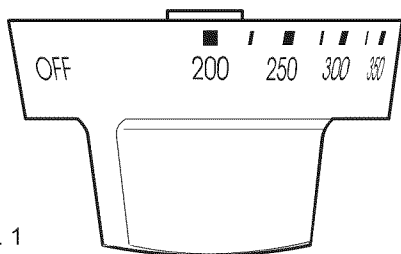

Fig. 1
Note: The graphics shown for the oven control knob may not look identical to the knob on your range. The illustration is representational (See Fig. 1).
1. Open oven door completely (horizontal with floor - See Fig. 1).